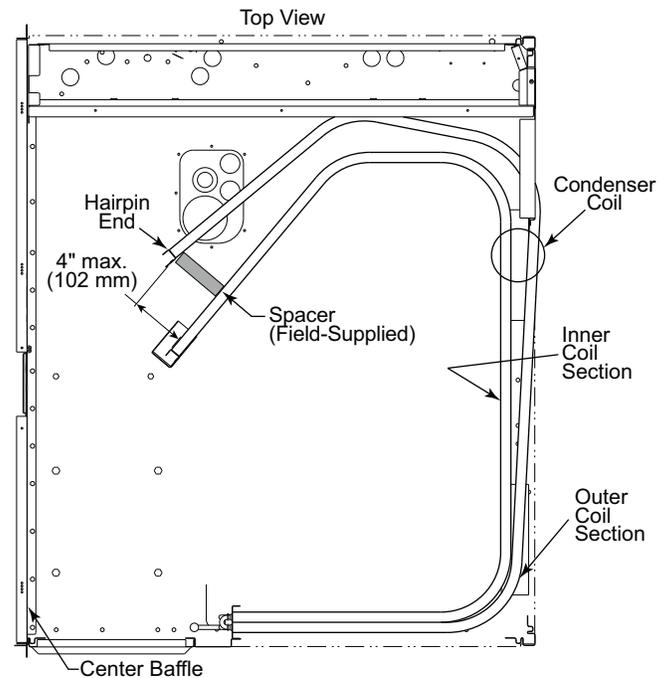

Fig. 16 – Separating Coil Sections
8. Insert a spacer (field-supplied) between the tube sheets to hold the coils apart. See Fig. 16.